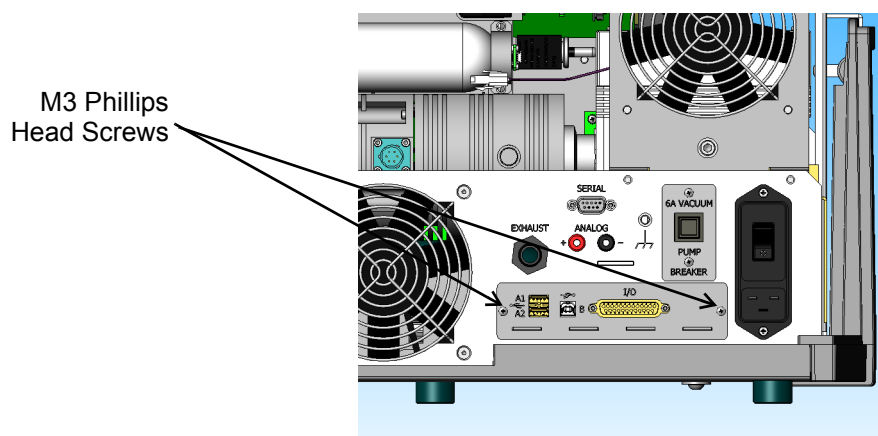

Figure 3: I/O Assembly with Screws
7. Remove the two I/O board Phillips head screws w/lock washers and remove the I/O board that is installed in the unit ("Figure 3: I/O Assembly with Screws").
11. Reinstall the two I/O board Philips head screws w/lock washers ("Figure 3: I/O Assembly with Screws").